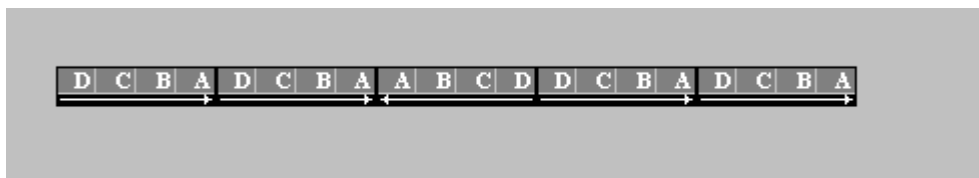

Fig. 4.16
- Click on **Left** position to change the direction of the arrow – Fig. 4.16.